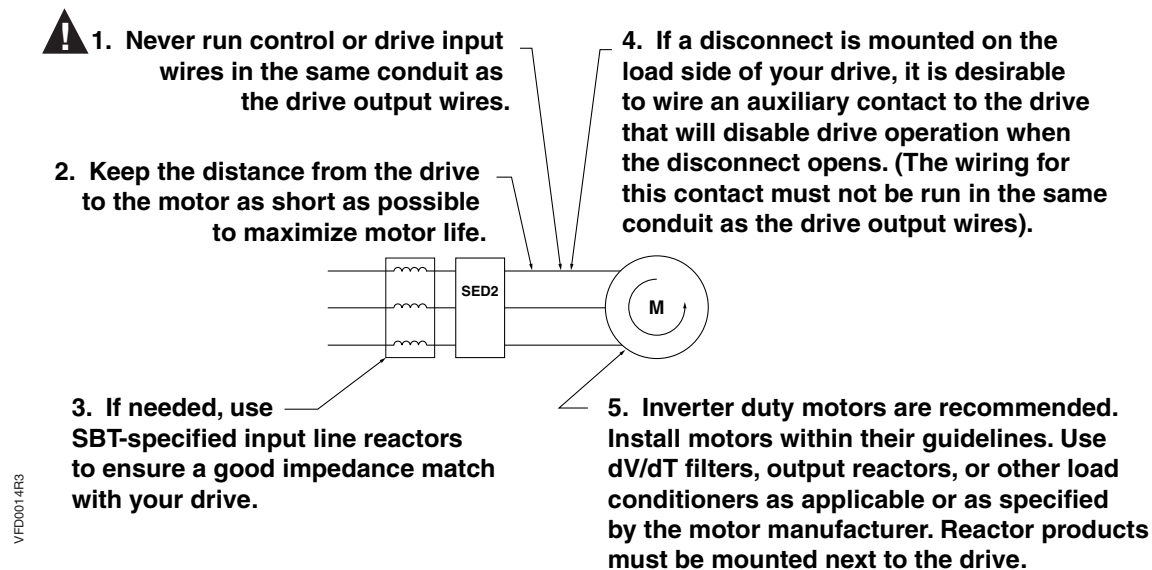

Figure 6. Motor Cable Installation Notes.
2. Route shielded, twisted pair, 24-gauge minimum cable for control wiring in separate conduit into enclosure (Figures 6 through 8). Connect control wiring per job drawings and Figure 10.
5. Route input power wiring in separate conduit into enclosure (Figures 6 through 8). Connect input power wiring to disconnect switch and ground lug or to circuit breaker and ground lug. See Tables 2 through 5 for wire sizes and tightening torques.